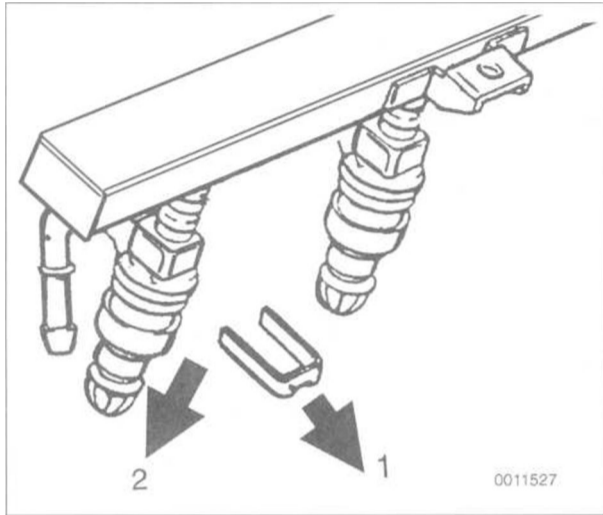

Fig. 18. Pry retaining clip from injector (1), then pull Injector from rail (2).
7. Pry up the fuel rail and remove individual injectors by removing the injector retaining clip and pulling the injector from the rail. See Fig. 18.